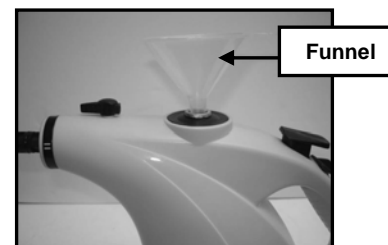

Fig. 4
6. Slowly pour water into the boiler using the measuring cup and the funnel. (Fig. 4)